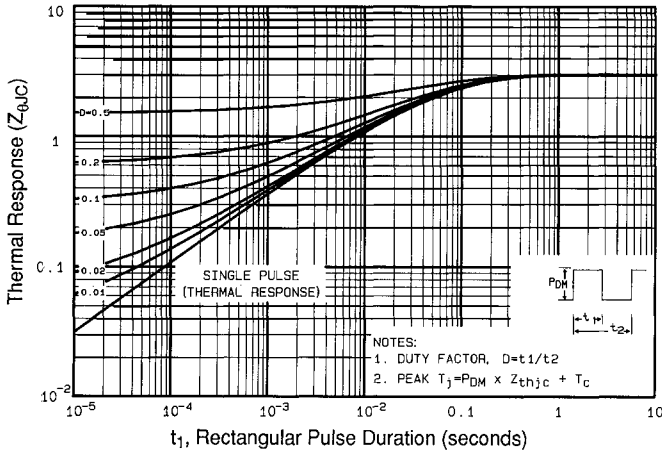

Fig 11. Maximum Effective Transient Thermal Impedance, Junction-to-Case
- ① Repetitive rating; pulse width limited by max. junction temperature (See Figure 11)
- ② V_{DD}=25V, starting T_J=25°C, L=541μH